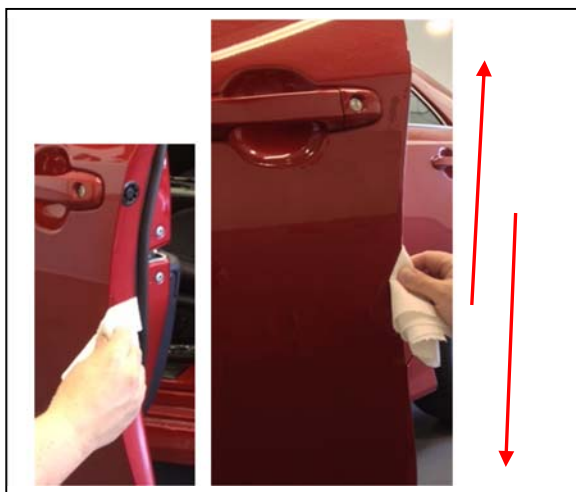

Fig. 1-2
- (2) Using the second lint free cloth, thoroughly dry the area free of Simple Green cleaner previously applied. In some instances a rubber weather seal may be found – ensure to clean between the trailing edge and rubber seal. (Fig. 1-2) Turn the cloth repeatedly to attain a dry surface.
- (iii) Repeat Step (2), if resistance is NOT felt.